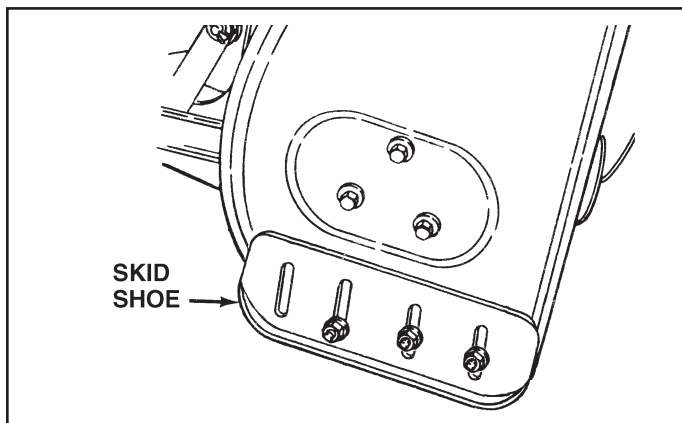

FIGURE 59
(Refer to figures 59 and 60 on page 27)**
- Raise the snow thrower off the ground and place a block under each end of the scraper plate. Loosen the six hex nuts securing the skid shoes to the housing. Adjust the skid shoes up or down and retighten the nuts securely. Adjust both skid shoes to the same height to keep the housing and the scraper plate level. See figure 59.